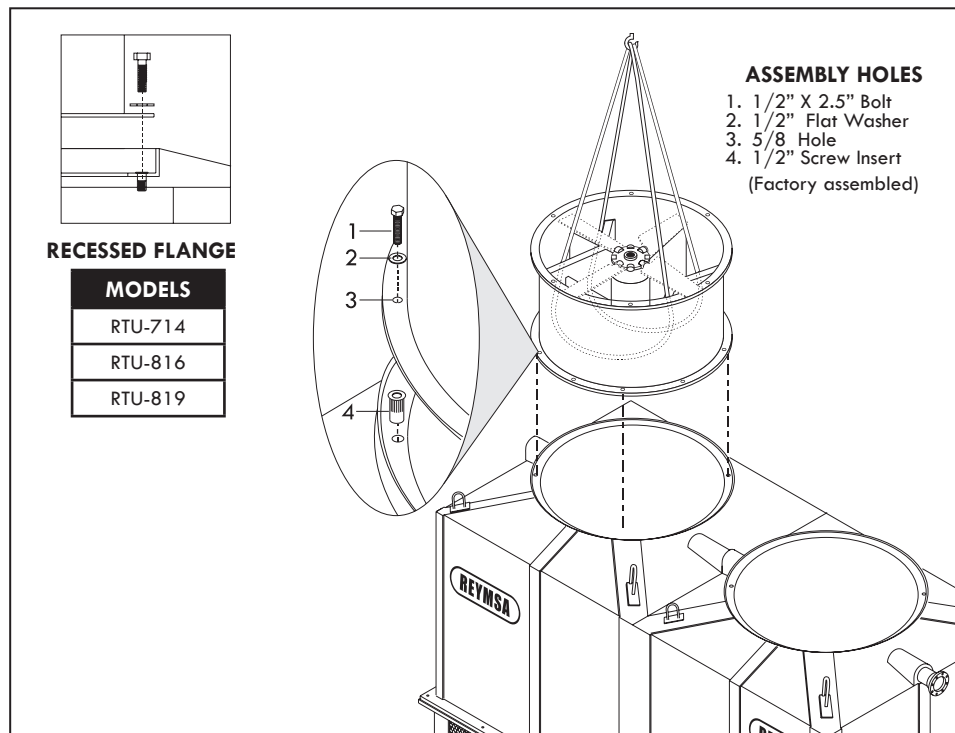

Figure A-40: Fan Duct assembly for a Double Fan Tower
- I.** Then cradle/straddle the fan support with the straps (as shown in figure A-40) so you can lift the fan duct with a crane and assemble it.
- J.** Identify each fan duct, they are labeled with a number on the inside of the lower edge. For a correct installation, this number must match the number on the distribution manifold of the corresponding body section. Now place fan duct 1 on the correspondent receiving flange on top of the Tower; make sure the bolt holes and the marks inside the fan duct and the receiving flange are aligned (Figure A-40 and A-41). Secure it with the stainless steel nut and bolt sets supplied by REYMSA.